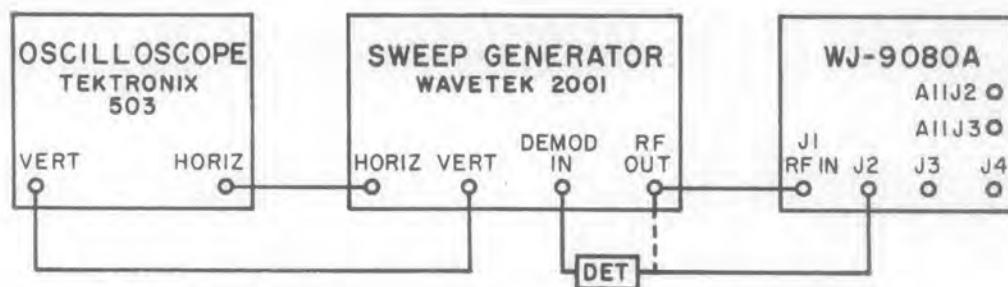

Figure 4-1. Equipment Setup, Overall Gain and Bandwidth Check
- (1) Connect the equipment as shown in Figure 4-1.
- (1) With the equipment setup as shown in Figure 4-1, connect the variable power supply to J7 (AGC INPUT) on the rear panel.
- (2) Set the voltage to 0.0 V dc for 78101 -1, -2, -3, -7, -8, or -9 AGC/AFC Analog Tune modules or +10 V dc for -4, -5, or -6 modules.
- (3) Adjust the sweep generator output level to -30 dBm and the oscilloscope for a convenient reference level.
- (4) Adjust the power supply voltage to -24 V dc for 78101 -1, -2, or -3 modules +1 V dc for -4, -5, or -6 or -15 V dc for -7, -8, or -9 modules.
- (5) Increase the sweep generator output until the reference level is re-established.
- (6) The amount of attenuation removed represents the AGC control range and should be a minimum of 30 dBm.